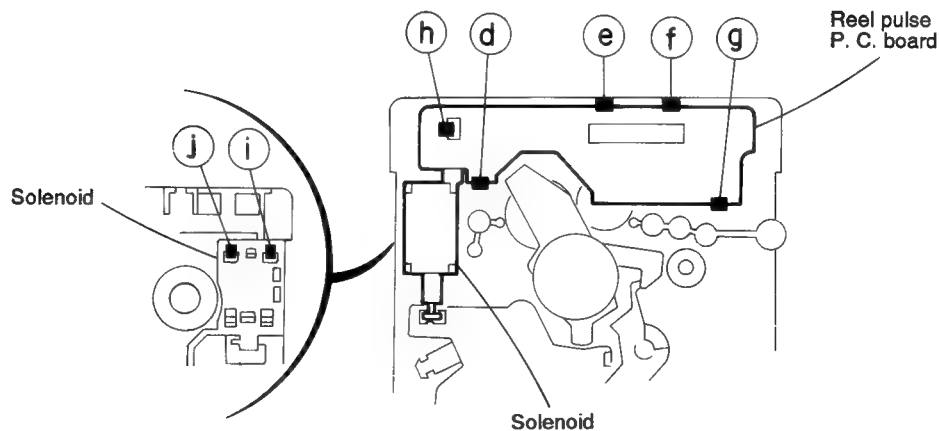

Fig. 5-27
■ Removing the Reel Pulse P.C. Board and Solenoid (See Fig. 5-27)